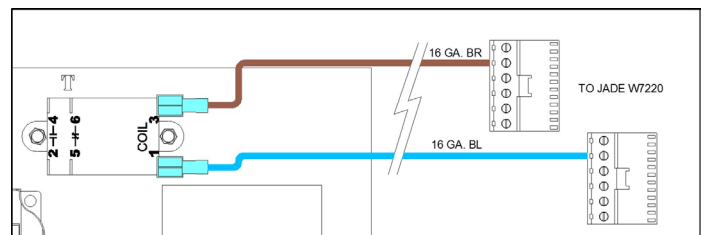

FIGURE 7
3. Attach the low voltage wires to 'EXH1' and 'C' of the W7220 Jade control module on the economizer, using the provided connectors per Figures 7 & 8.
NOTE: For a DDC Controller application, remove the control harness spade terminals from the relay coil in Figure 7, and discard the harness & Jade side connectors. Connect the DDC Economizer 'Power Exhaust' control wires to the same terminals on this relay.
12. If the blower motors did not start up, verify 24VAC at the coil of the control box relay, terminals 1 and 3, per Figure 7.